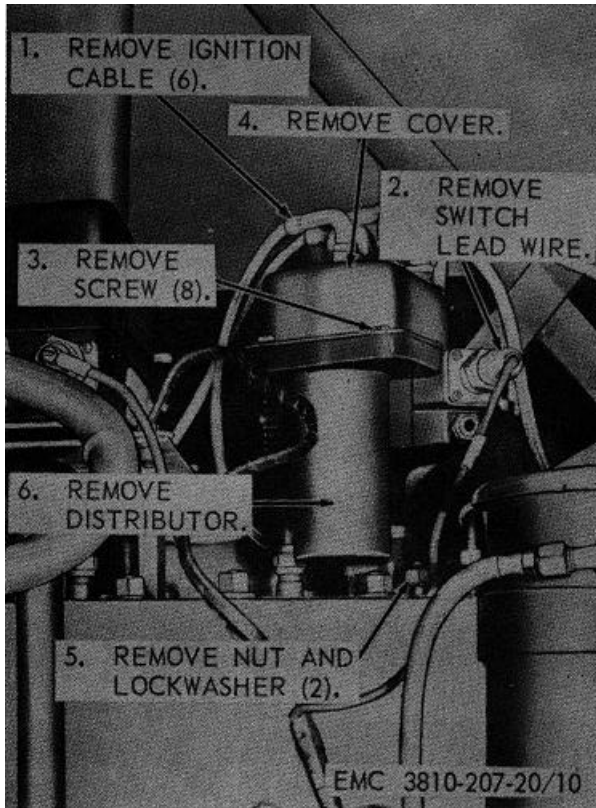

Figure 10. Distributor, removal and installation.
a. *Removal.* Remove the distributor as instructed on figure 10.
- (3) Lubricate the distributor (LO 5-3810-207-20).
c. *Installation.* Refer to the identification marks placed on the distributor housing and install the distributor as illustrated on figure 10.